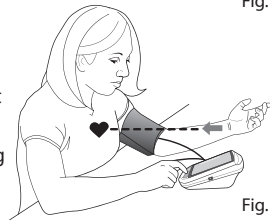

Fig. 2
3. Rest your elbow on a solid surface with your palm facing upward. Elevate your arm so that the cuff is at the same level as your heart, Fig 2. Relax your left hand.